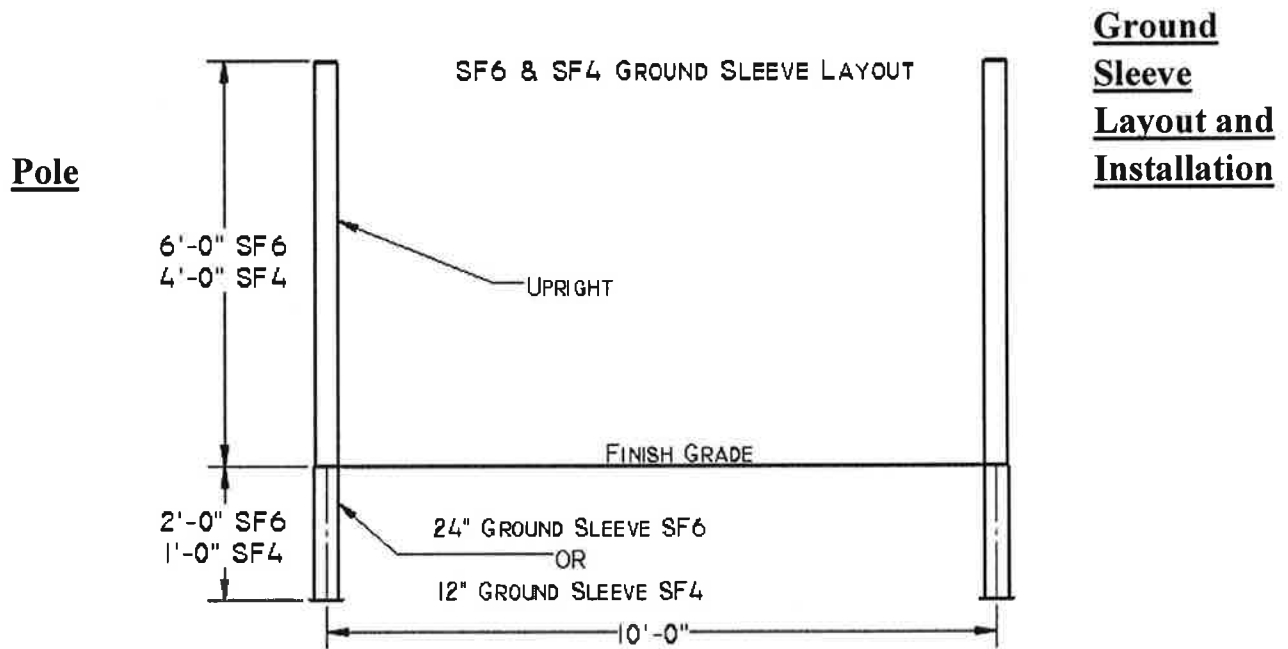

Figure 1.
6. Repeat this process for all remaining ground sleeves and poles. (Figure 1)